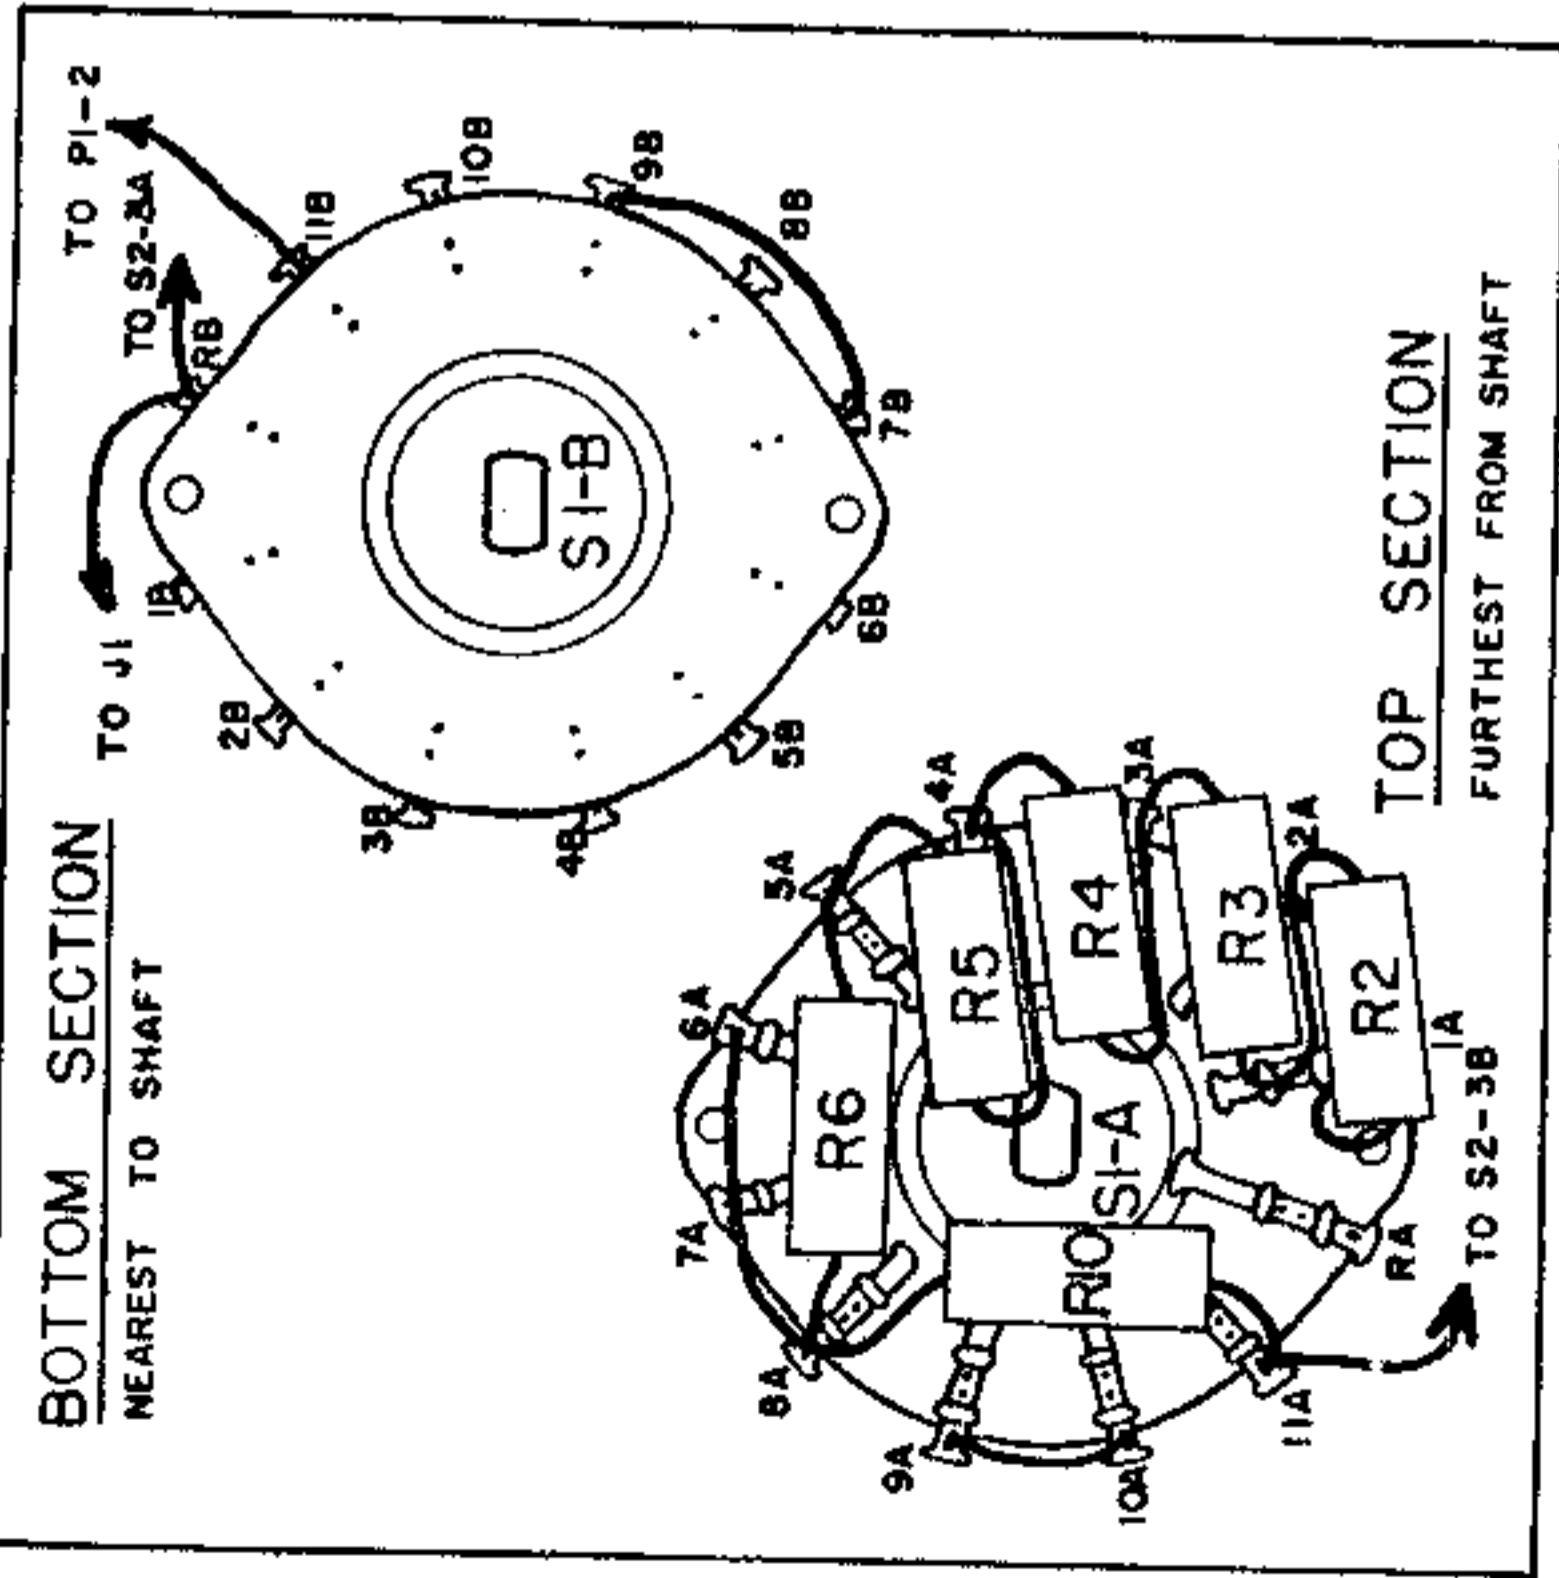
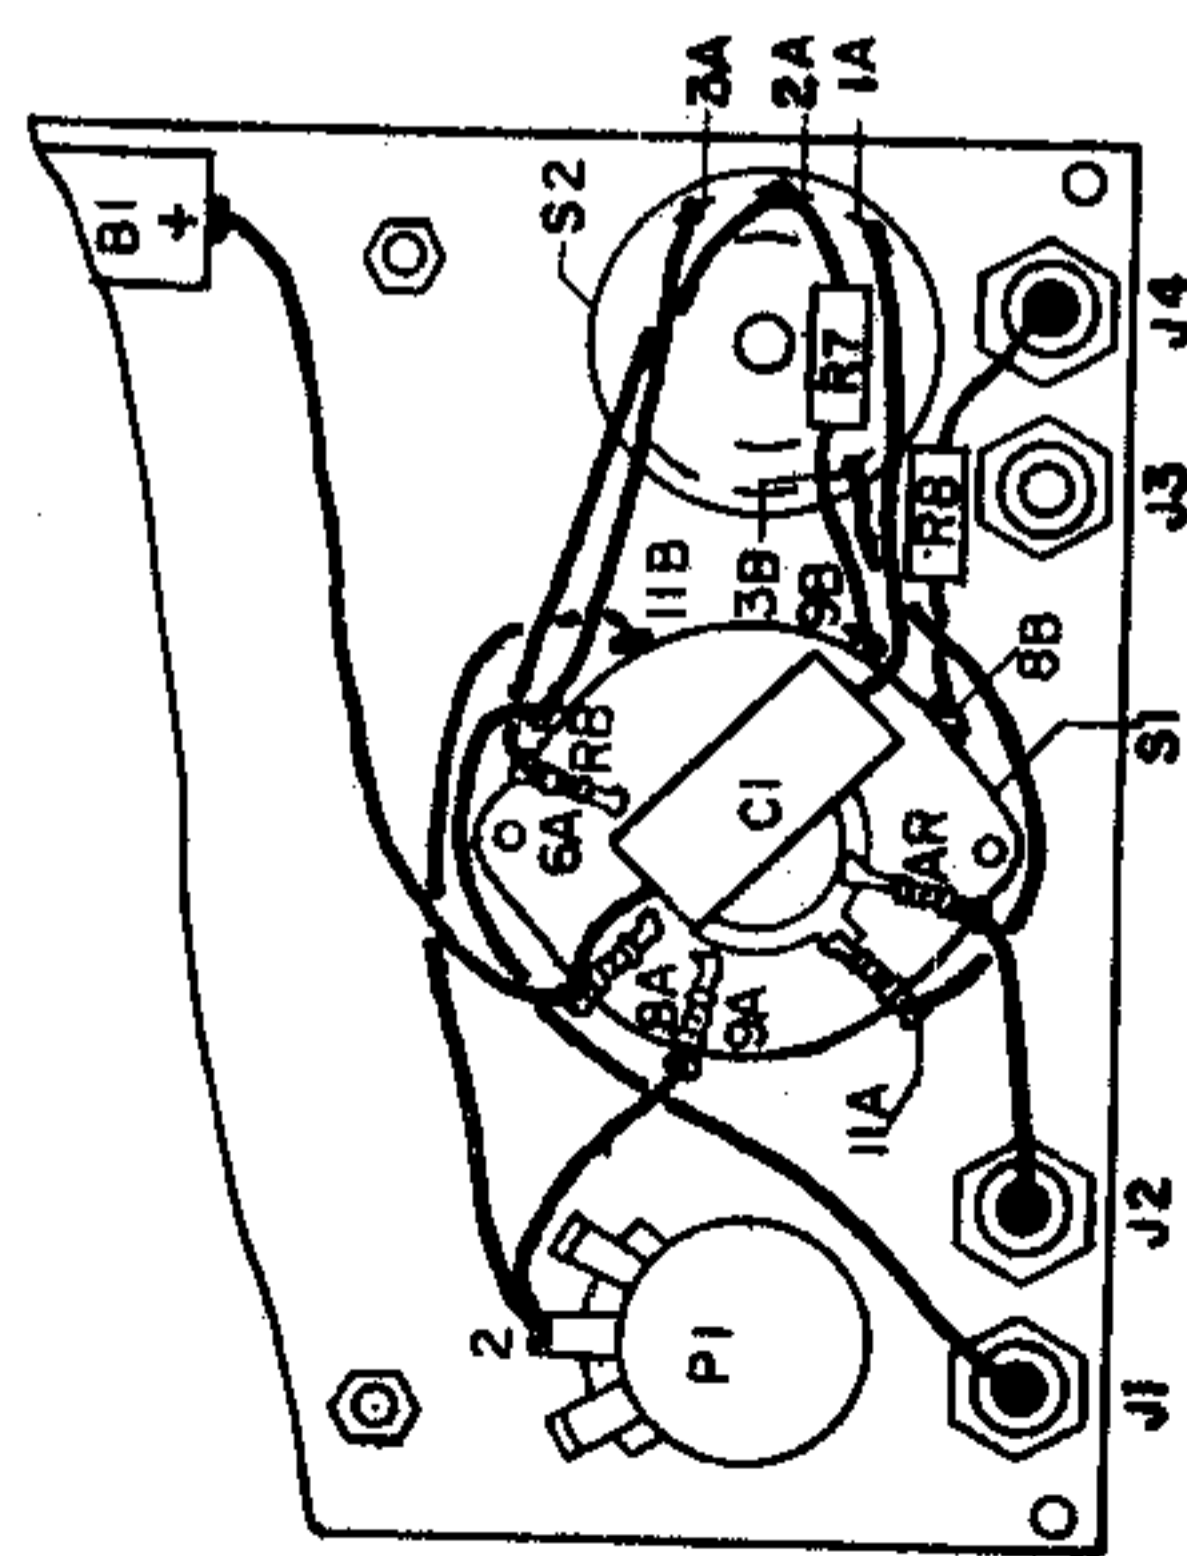

FIGURE 1
FIGURE 2
- 2) Refer to Assembly Print No. 2. Prewire the range switch S1 as instructed and shown in Fig. 1. Mount the prewired range switch as instructed and complete the final wiring as instructed and shown in Fig. 2.
To position switch S1 to correspond to the view shown of it in the rewiring diagram, Fig. 1, and Fig. 2: turn the whole switch in your hand, keeping the shaft pointed away from you, until the long (rotor) contact, RA, of switch S1-A is at your lower left, and the long (rotor) contact, RB, of switch S1-B is at your upper right. Note: Switch S1-A is formed of the contact members and rotor fastened to the top of the wafer (nearest you), and switch S1-B is formed of the contact members and rotor fastened to the underside of the wafer (furthest from you).